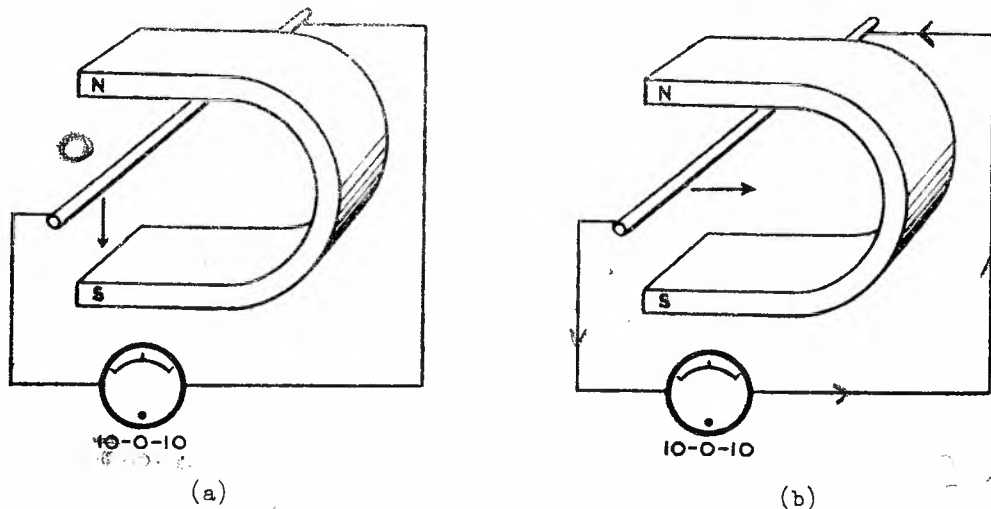

FIG. 1.
- STEP 1.** Connect the circuit as shown in Fig. 1.